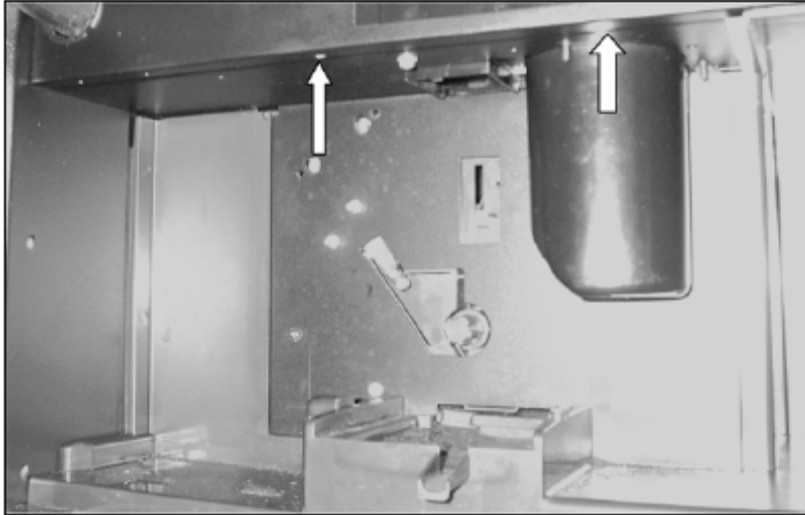

Figure 5-39: Upper Front Plate Assembly Retaining Screws
23. Remove the two upper front plate assembly retaining screws as shown in Figure 5-39.